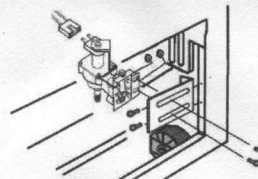

Figure 9
15. Mount new valve to refrigerator as shown in Figure 9. Self tapping machine screws and sheet metal screws are both provided in this kit.